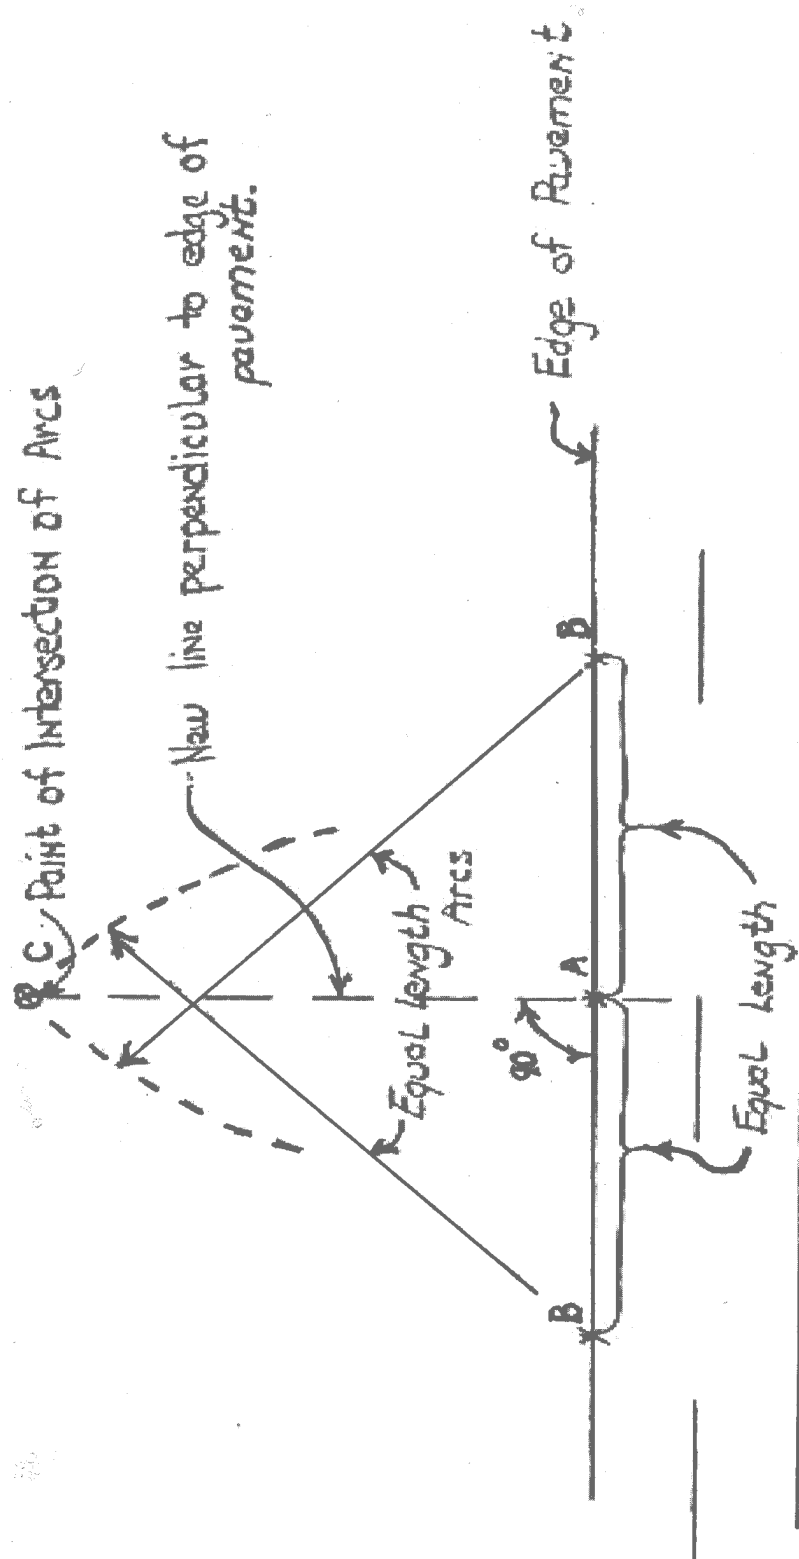

Figure 7-2. Determining Radius Point
- 4) Measure the radius distance from point B perpendicularly (Figure 7-2) and mark this as point C, which is the radius point.